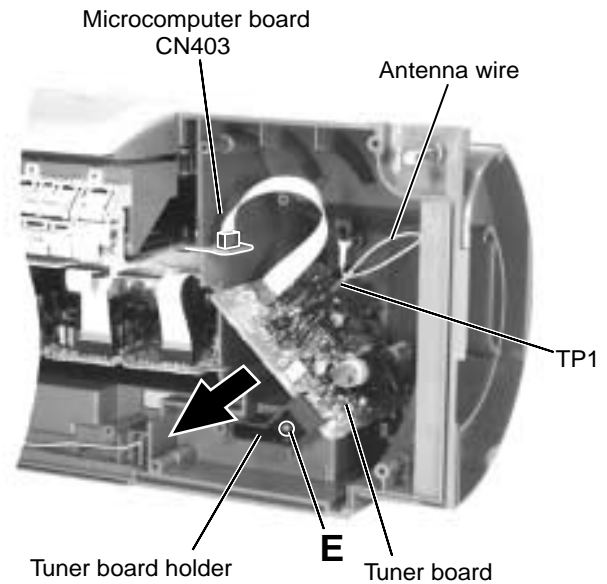

Fig.9
■ Removing the tuner board (See Fig.9)